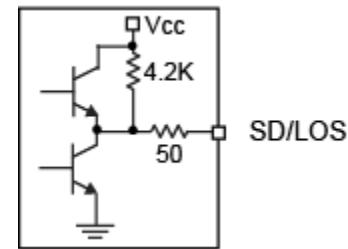

Figure 4. Simplified LOS/SD Output Structure
The SY88349NDL generates a chatter-free signal-detect (SD) or LOS LVTTL output, as shown in Figure 4. A highly-sensitive signal detect circuit is used to determine that the input amplitude is too small to be considered a valid input. LOS asserts high if the input amplitude falls below the threshold sets by LOS/SDLVL and de-asserts low otherwise. SD asserts high if the input amplitude rises above threshold set by LOS/SDLVL and de-asserts low otherwise. LOS/SD can be fed back to the JAM input to maintain output stability under the absence of an invalid signal condition. Typically, a 4.5dB to 5.5dB hysteresis is provided to prevent chattering.